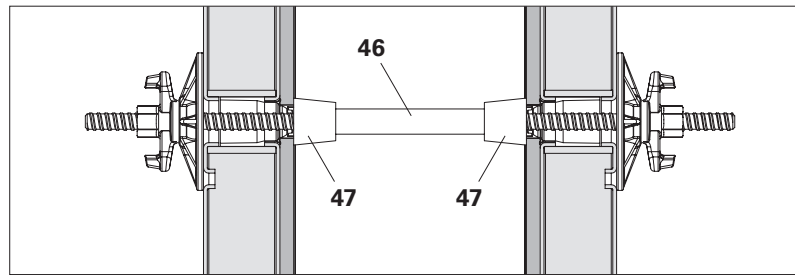

Fig. A7.03
- Variant 1 with Sealing Cone DK DW20 55 mm (**47**). (Fig. A7.03)